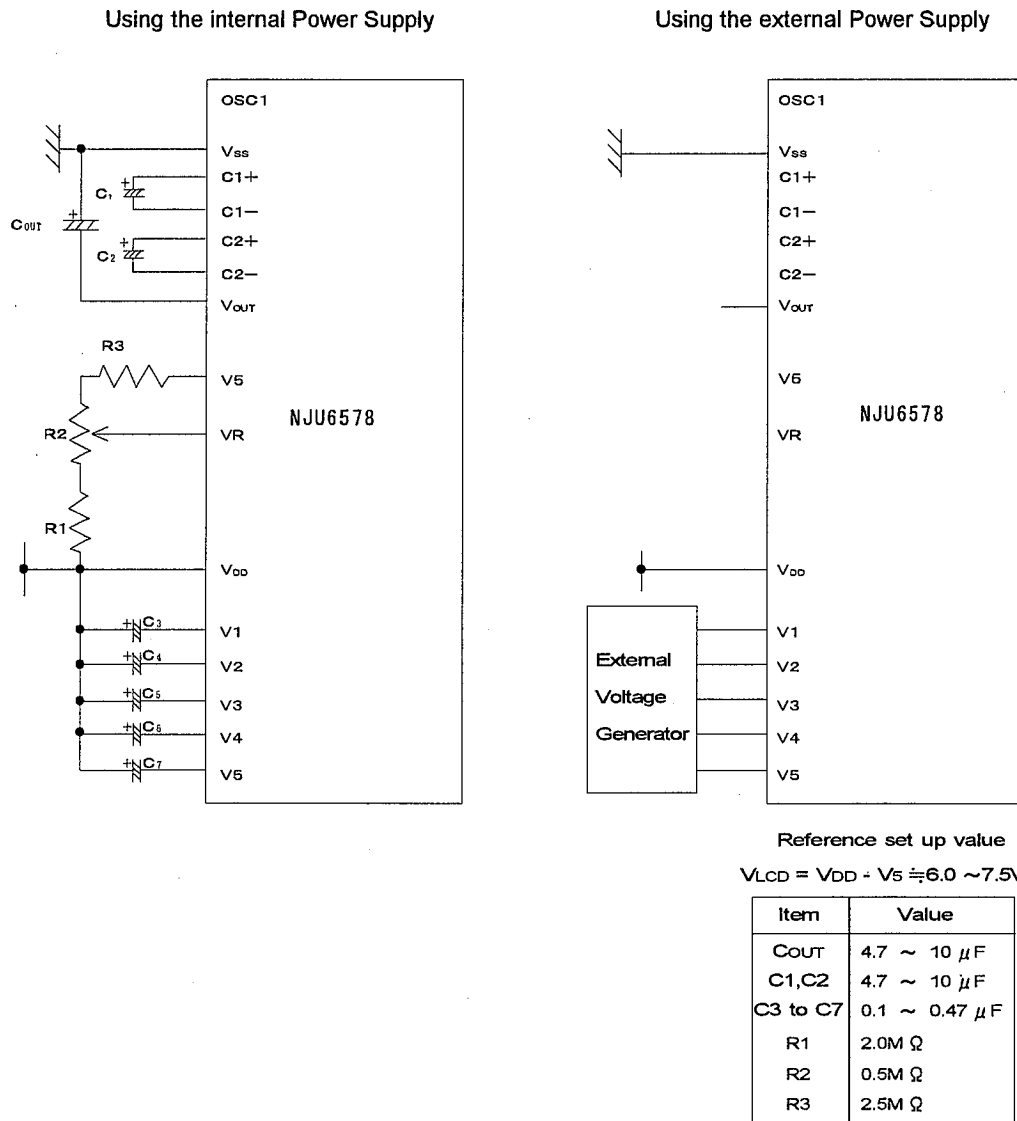

Fig. 4
\*2 The wait time depends on the C3 to C7, COUT capacitors (refer (4) (d)Fig.4), VDD and VLCD voltage.
As shown in Fig. 4, Five capacitors are required to connect to each LCD driving voltage terminal for voltage stabilizing. And the value of capacitors C3, C4, C5, C6 and C7 are determined depending on the actual LCD panel display evaluation.